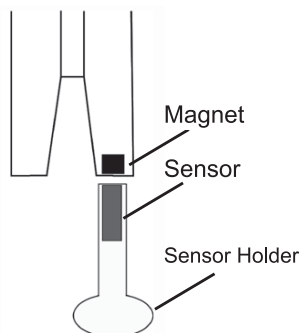

Fig 6
Refer to the Overview Notes on page 3 before starting installation. It is not possible to set out a single installation method for horizontal windlasses. The sensor may be fitted inside the windlass or you may need a sensor holder (Part # AA9110). See Fig 6 below. Often the sensor and magnet can only be fitted by the windlass manufacturer.
**Sensor Position:** The AutoAnchor sensor may be fitted using a sensor holder fixed to the deck to sit under the chainwheel (See Fig 6). The AutoAnchor sensor holder (#9110) is not included in the standard kit. Check with your supplier if you need this. The AA black sensor and the reed switch sensor must be fitted directly in line with the magnet in the chainwheel. The AA grey sensor may be fitted up to 20mm out of alignment. The gap between the sensor and magnet must be as per the table below.